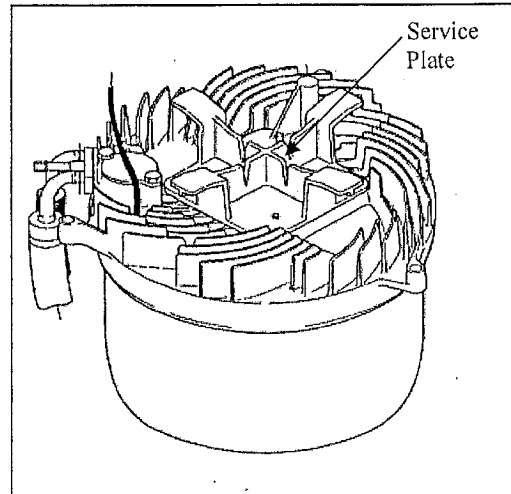

Figure 10 Service Plate Location
- If the *Compression Module* will not be replaced immediately, the rotor hole in the *convection plate* must be covered with the *service plate* available from BRC Fuel-Maker (See Figure 10).